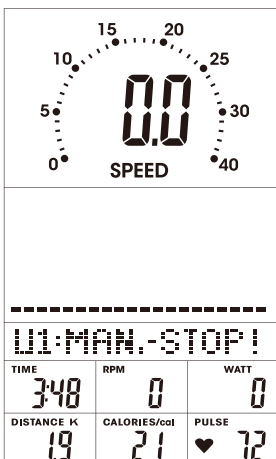

FIGURE 13
1. Press ENTER to enter MANUAL program, then the screen will blink (FIGURE 13).